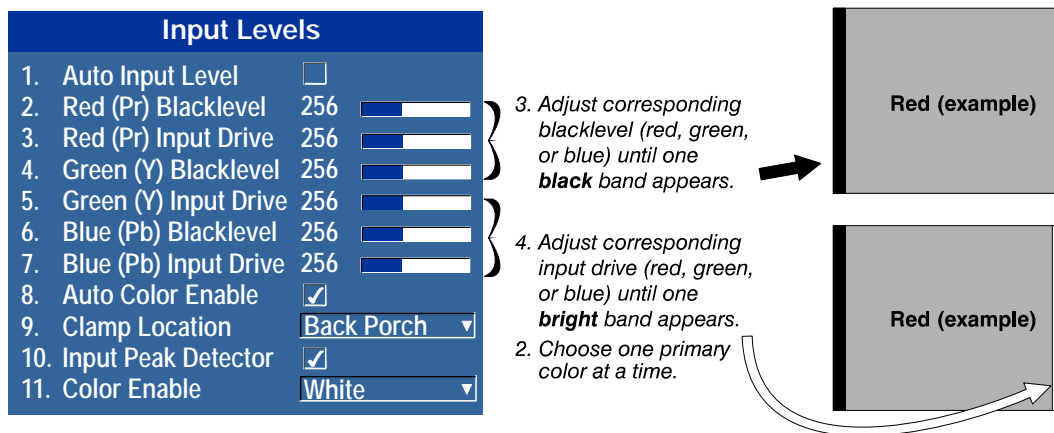

FIGURE 3-8 ADJUSTING INPUT LEVELS USING THE PEAK DETECTOR
- **Input Peak Detector:** A tool to assist with defining individual input levels, enabling you to accurately set the Input Levels for any particular source with the appropriate image. Enabling the Peak Detector activates a special operating mode for detecting *only* pixels that are considered black or white—all other levels are displayed as a mid-level grey. When used with a smooth grey scale pattern in which black and white are known to be at opposite edges of the image, you can watch these isolated areas while adjusting individual black levels and input drives until both black and white edges are *just* visible and distinguished from neighboring pixels. Images from this source will then display correct blacks and whites without crushing. See **Figure 3-8**.